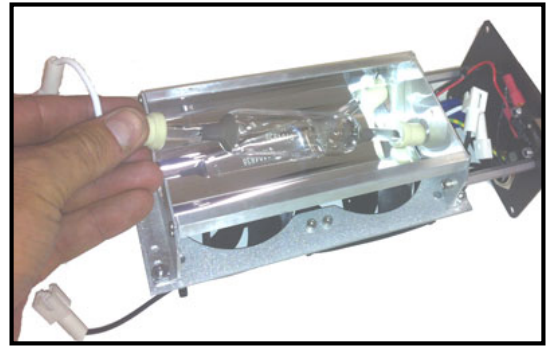

Figure 6
4. Guide the plug on the right side of the irradiator, as seen in **Figure 6**, through the lamp bracket and remove the lamp.